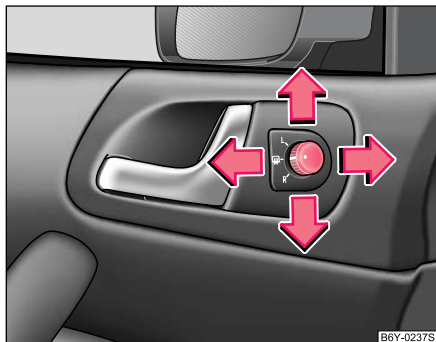

Fig. 42 Inner part of door: Rotary knob
- Turn the rotary knob to position  ⇒ **fig. 42**.